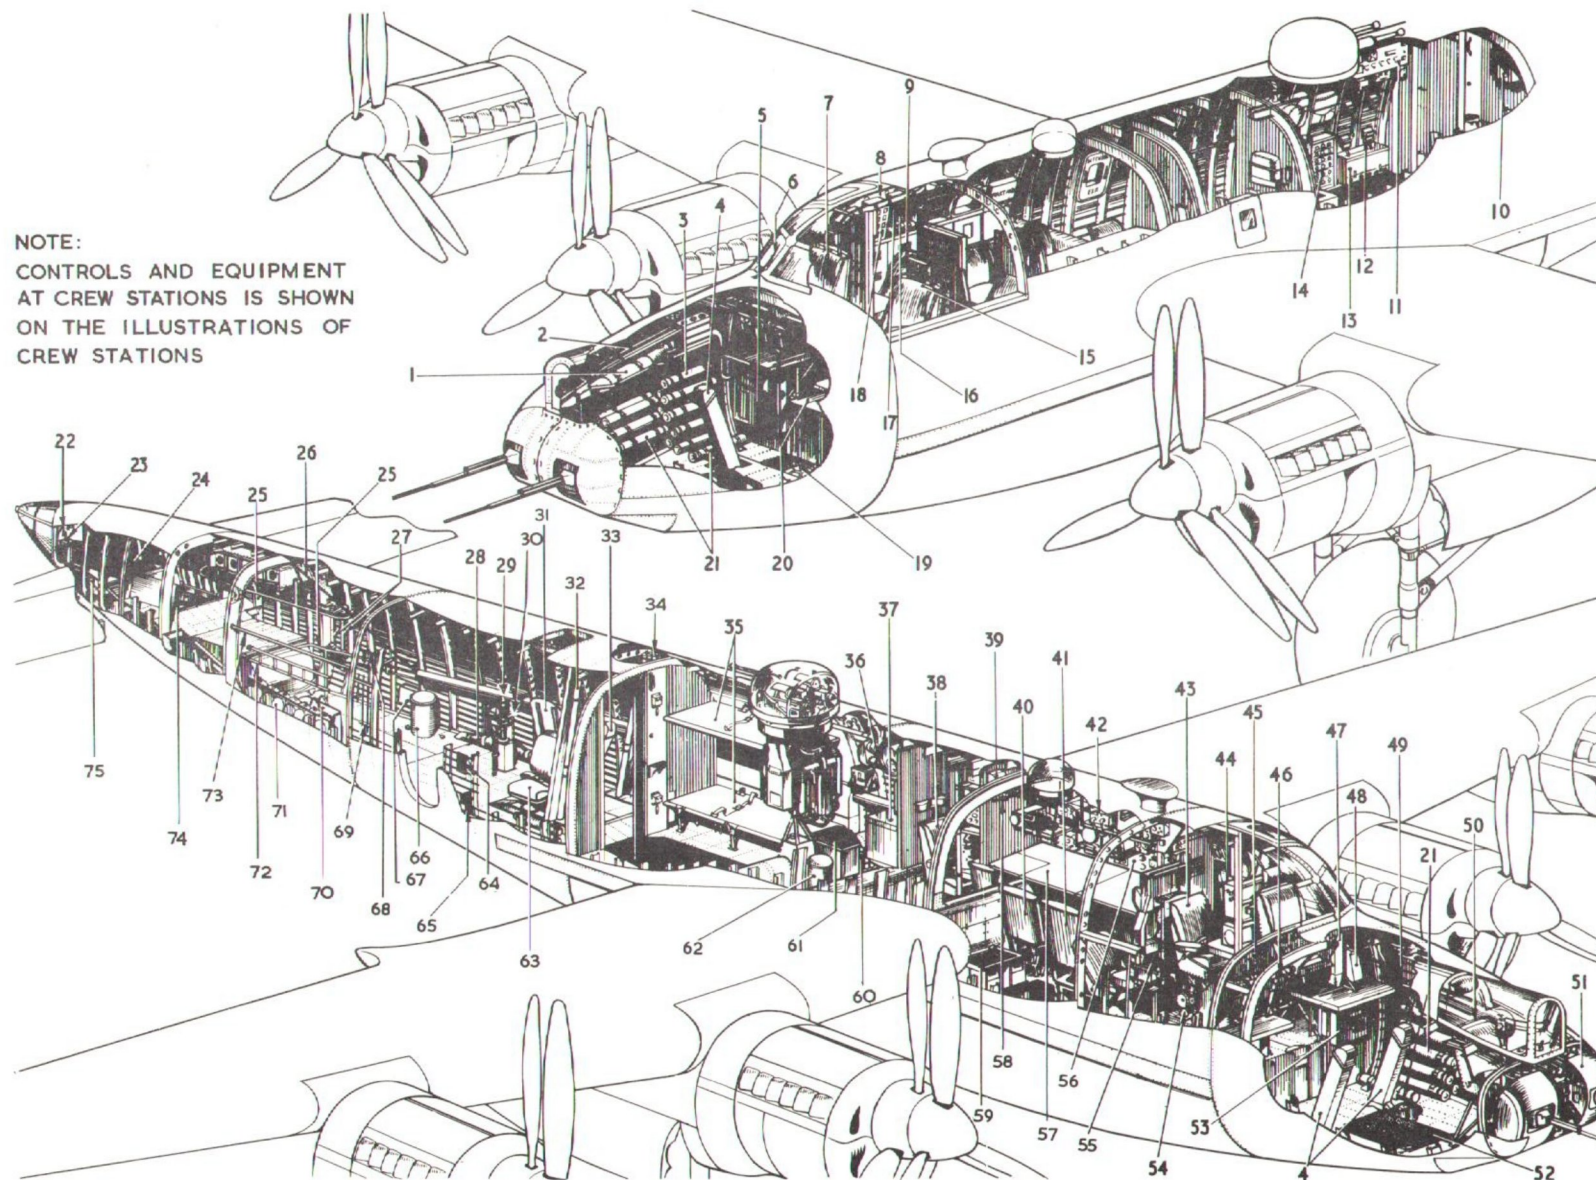

Fig.1. Crew stations and general equipment
1. For convenience of description, controls and equipment are divided between crew stations. Fig.1 provides a general picture of the layout of the complete aircraft interior and the remaining illustrations are concerned with the various crew stations with the exception of those for the pilots which are covered in Chapter 1.
KEY TO FIG.1